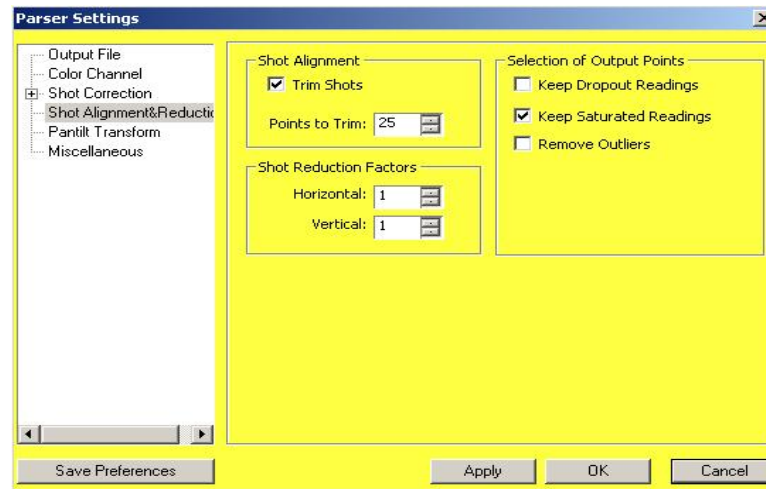

Figure 3: Shot alignment & reduction settings
| Figure 3: Shot alignment & reduction settings | 3 |
7. In the Parser Settings list, select **Shot Alignment & Reduction**. The Shot Alignment & Reduction settings appear (Figure 3).